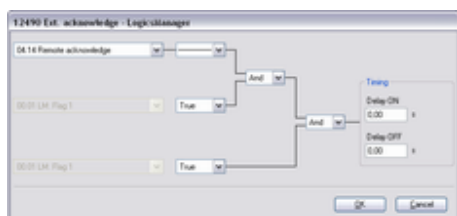

Fig. 223: LogicsManager function "Ext. acknowledge"
3. ➤ Configure the LogicsManager function "Ext. acknowledge" as shown in (Fig. 223).